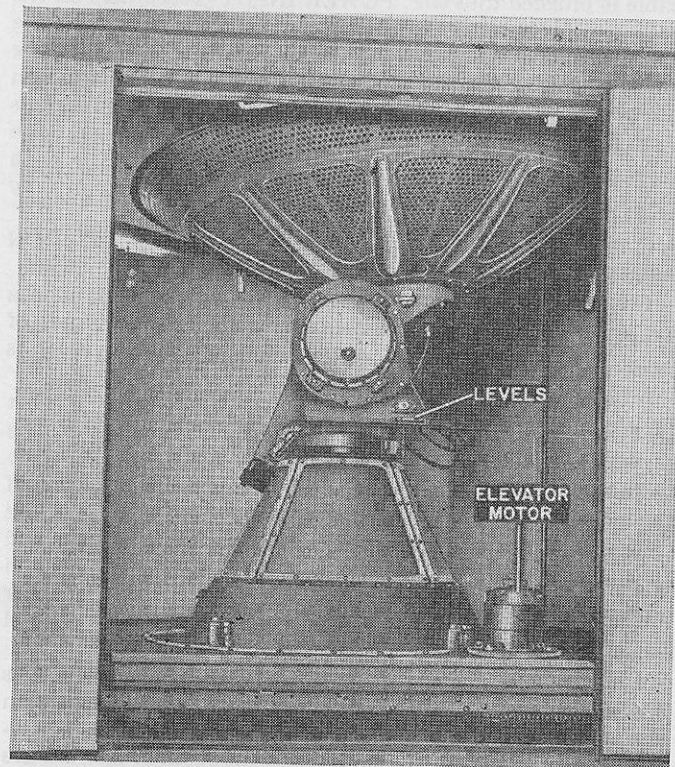

FIGURE 18.—Side view of pedestal in lowered position.
e. The level of the trailer body can be checked by observing the two level bubbles on the pedestal. (See fig. 18.) Using the front jacks, level the trailer lengthwise, and then level the trailer crosswise using the two side jacks. Unless the leveling screws of the pedestal are adjusted so that approximately the same amount of the screw extends above the bushing in all four points, some inaccuracy in leveling the trailer results. However, since the pedestal is leveled after it has been elevated, this rough leveling is sufficiently accurate.